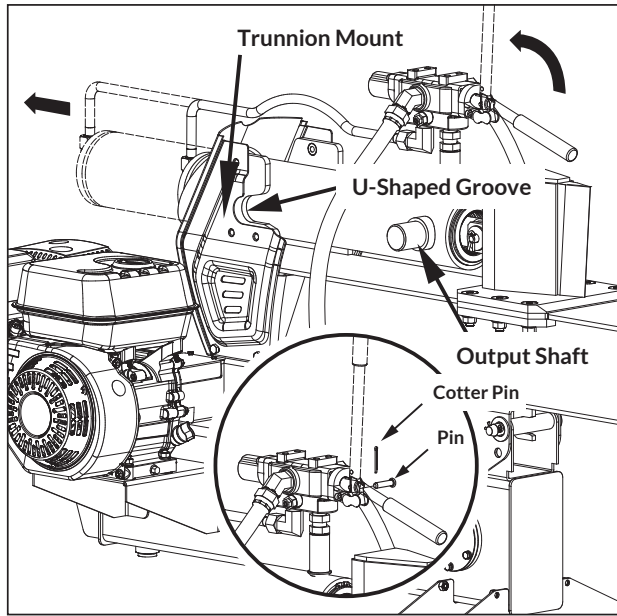

Figure 3
2. The control handle is shipped hanging from the valve on the handle link. Remove the pin and cotter pin from the control handle. Move the control lever to the vertical Neutral position (shown in circle on illustration Figure 3.)